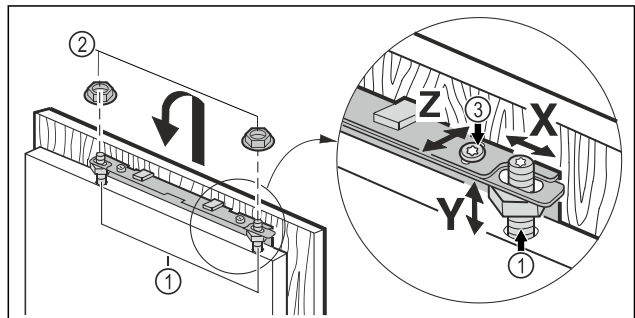

Fig. 16
- Hook the unit door onto the adjustment bolts Fig. 16 (1) and screw the lock nuts Fig. 16 (2) loosely onto the adjustment bolts.
- Align the unit door in height **Y** and in the lateral inclination: Adjust the adjustment bolt Fig. 16 (1) with a screwdriver.
- Tighten the lock nuts Fig. 16 (3).